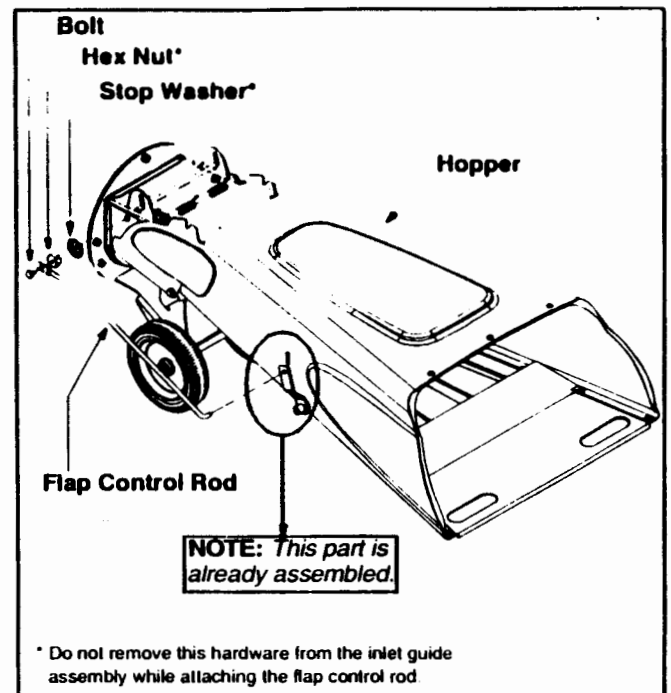

Figure 3
- The flap control rod is already attached to the hopper at the top, as indicated in Figure 3. The
- Unscrew the shoulder bolt from the stop washer on the inlet guide. See Figure 3.
- Align the loose end of the flap control rod with the stop washer on the inlet guide. See Figure 3.
- Slide the shoulder bolt through the opening in the flap control rod. See Figure 3. Secure tightly.